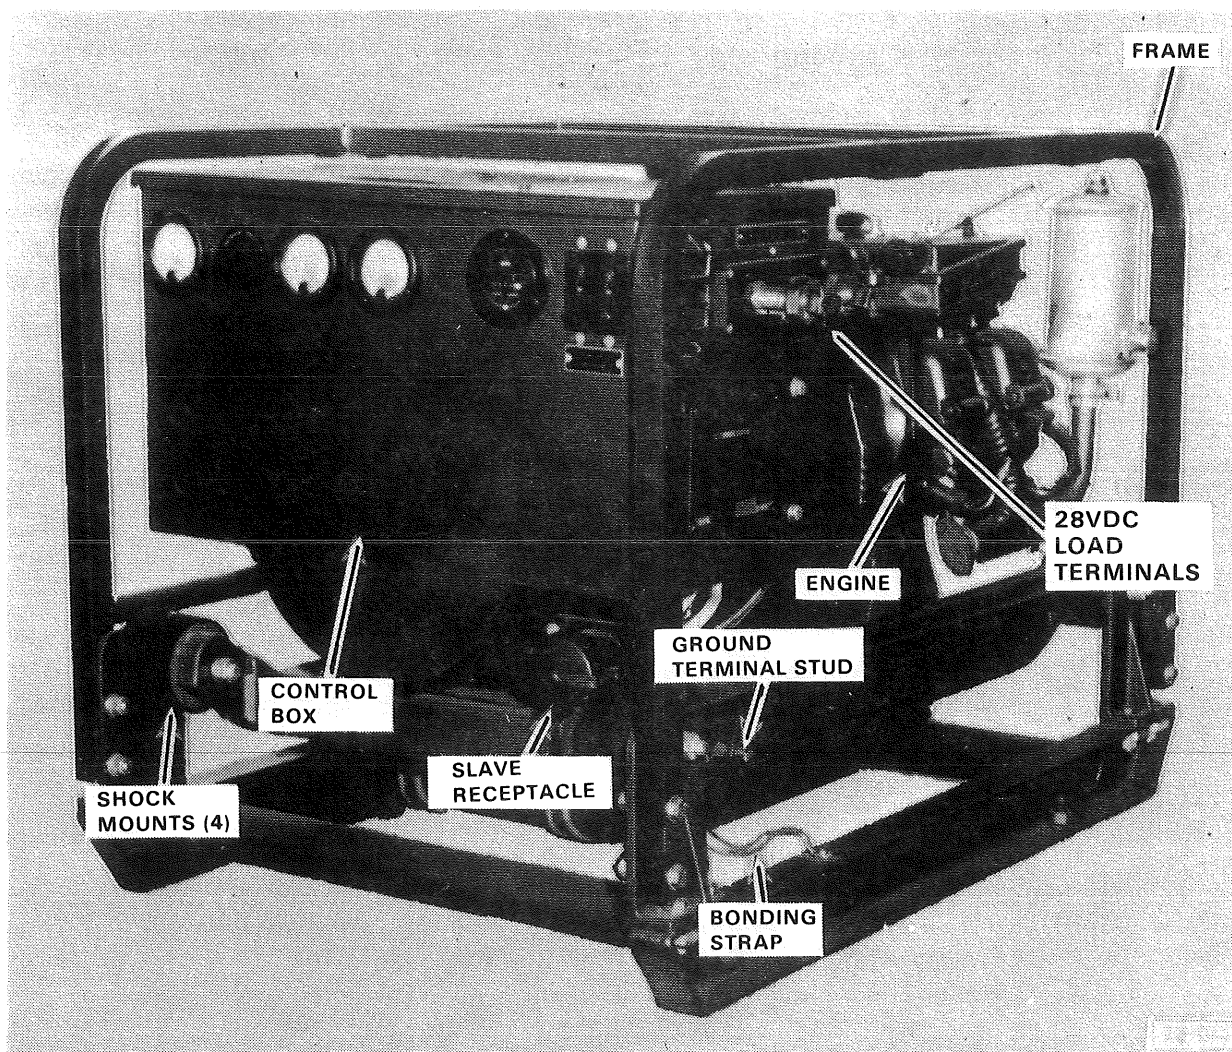

Figure 1. Generator Set 3 KW, 28 V DC.
2. Ground Generator Set 3 KW, 28 V DC. (Refer to fig 1, and TM 5-6115-271-14, chap 4, sec I, para 4-2b, pp 4-1 and 4-2.)
3. Connect dc power cable. (Refer to fig 1, and TM 5-6115-271-14, chap 4, sec I, para 4-2c(2), p 4-3.)